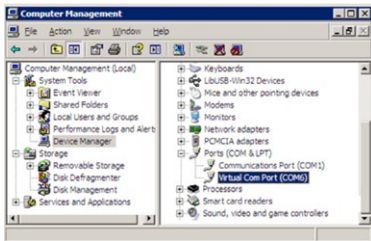

Figure 1: COM port assignment for USB CDC device in device manager window
12. After CDC driver installation, find the exact COM port Windows assigned to the CDC device in device manager. To access device manager, right click the My Computer icon from your Windows desktop, then, select Manage. See the COM number as indicated in Figure 1.